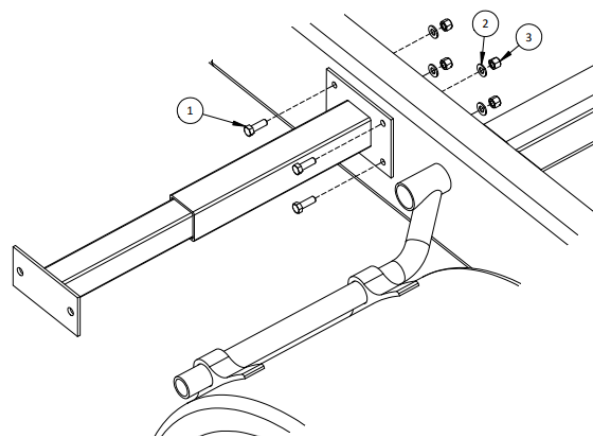

FIGURE 3.6: MOUNT OFFSETS
Bolt the offsets to the frame rail at the marked locations from the previous step using the supplied 1/2" x 1-1/2" bolts (1), washers (2), and nuts (3). See *Figure 3.6*.